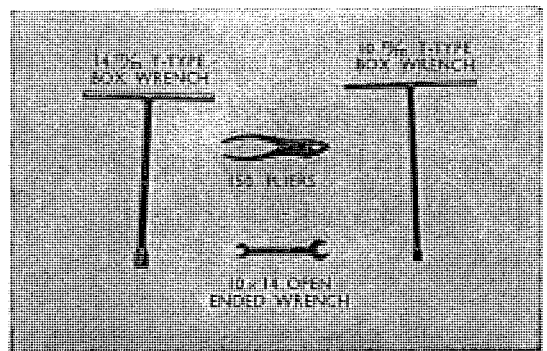

Fig. 4.50 Tools required for disassembly and assembly of the exhaust pipe and muffler
- Tools required for disassembly and assembly of the exhaust pipe and muffler. (Refer to Fig. 4.50)